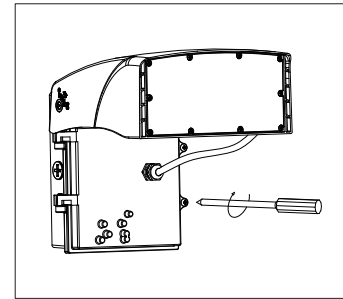
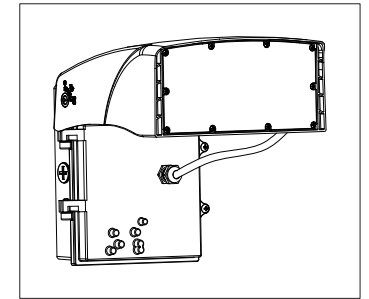

Figure 12
Figure 13
Step 8: Well organize the line and tighten the screws of the lamp base (Figure 12 & Figure 13).